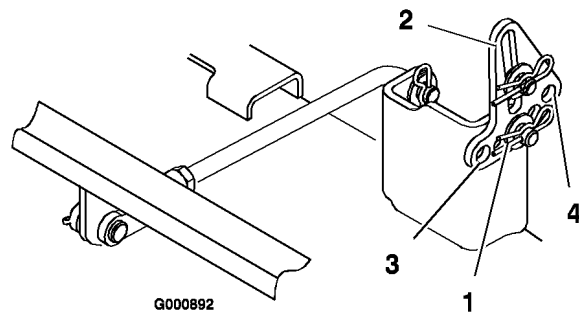

Figure 43
5. Remove the hairpin cotter and washer from the leveling bracket (Figure 43). To level the blade(s), reposition the leveling bracket(s) in
a different hole and install the washer and hairpin cotter. (Figure 43). A front hole lowers the blade height and a rear hole raises its height. Adjust both sides as required.